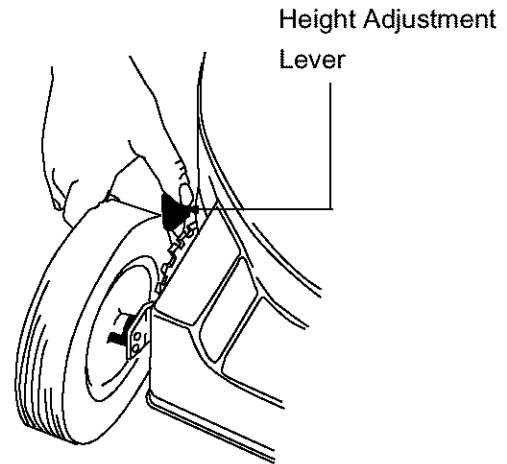

Figure 17
- Simply depress the lever towards the wheel and move the lever assembly to desired position. See Figure 17.